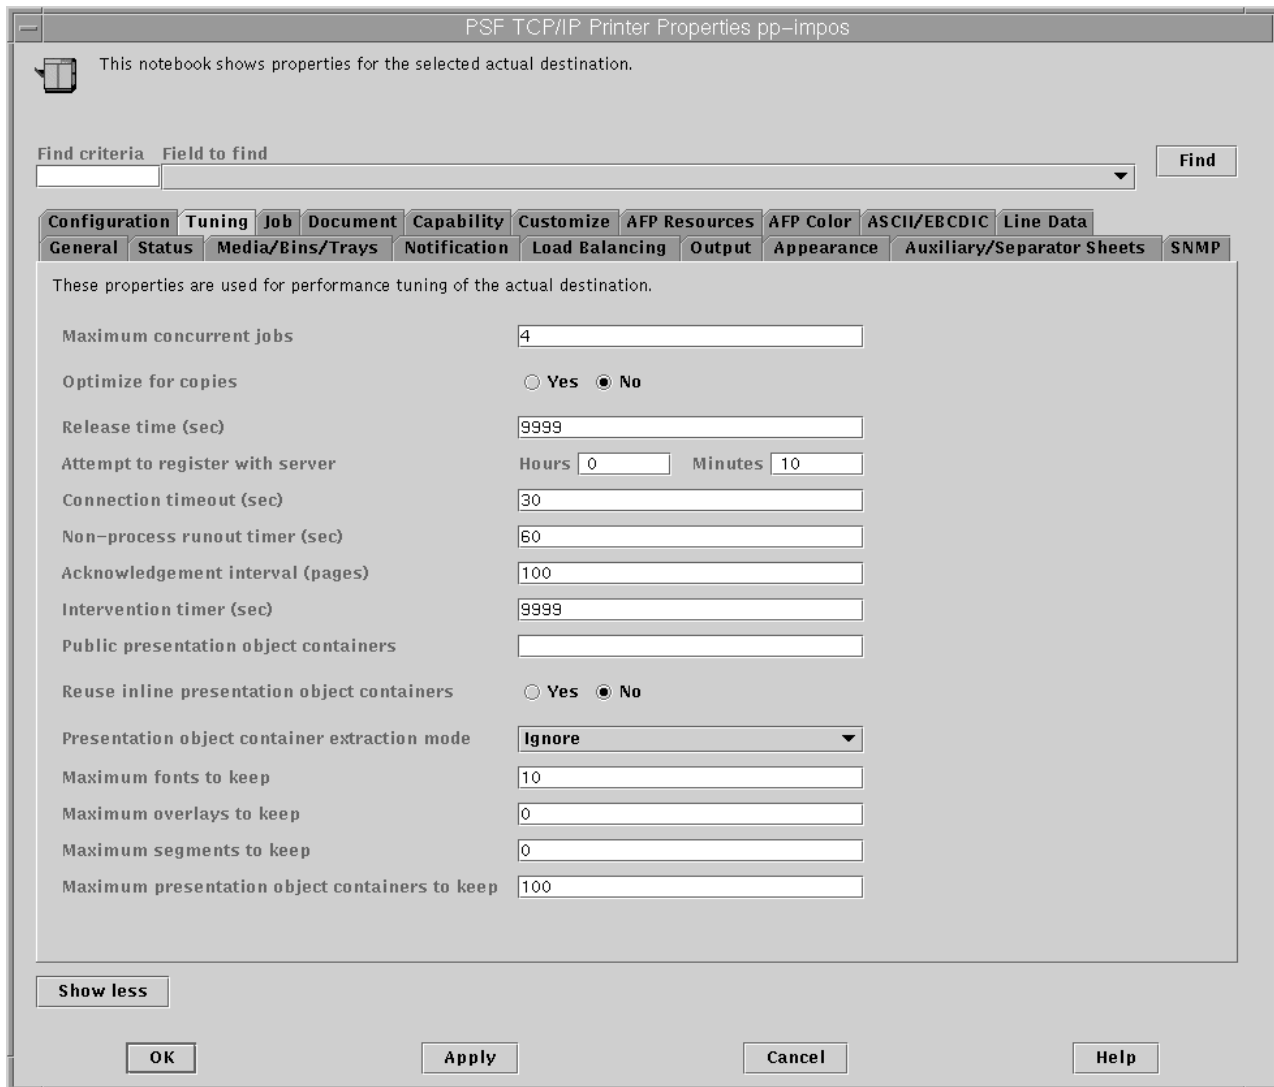

Figure 3. PSF DSS Actual Destination Properties Notebook.
4. Specify high values for both the **Release time (sec)** and the **Maximum presentation object containers to keep** fields as shown in Figure 3 on page 9. Setting the **Maximum presentation object containers to keep** field (or the **maximum-presentation-object-containers-to-keep** attribute on the command line) to a high value ensures that data stays at the printer for a longer period, reducing network traffic when reprinting jobs.
5. Ensure that **Optimize for copies** is set to no, as shown in Figure 3 on page 9.